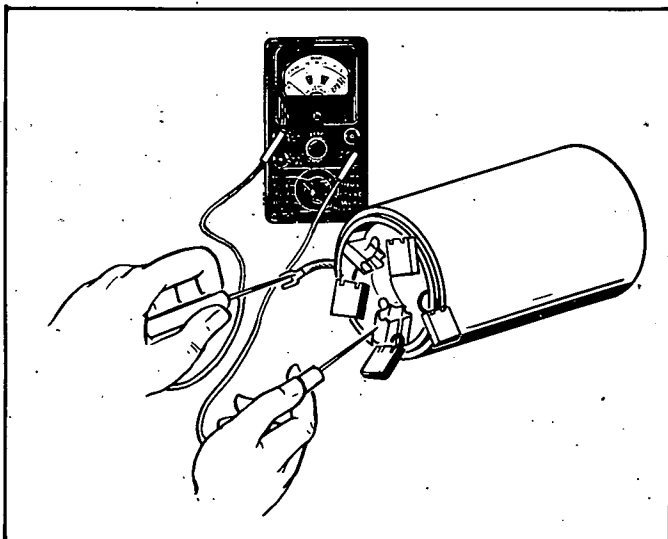

FIGURE 39. FIELD COIL OPEN CIRCUIT TEST
7. **Testing Field Coils for Open Circuit.** Place one lead on the connector and the other on a clean spot on the brushholder. If the ohmmeter reading is high, the field coil is open. Check the other three brushholders in the same manner (Figure 39).